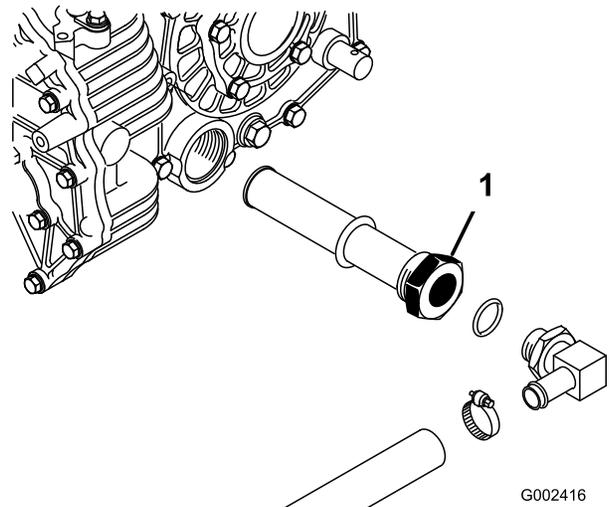

Figure 78
3. Note the orientation of the hydraulic hose and 90 degree fitting connected to the strainer on the side of the reservoir (Figure 78). Remove the hydraulic hose and 90 degree fitting.